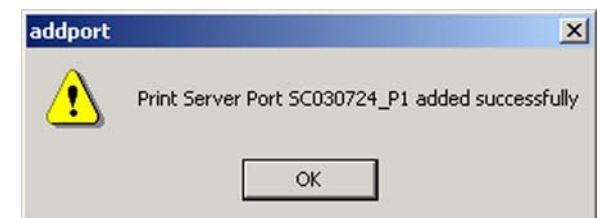

Figure 5-9: Added Successfully
10. You will be informed that the PrintServer Port has been added successfully. (Figure 5-9.) Click **OK**.